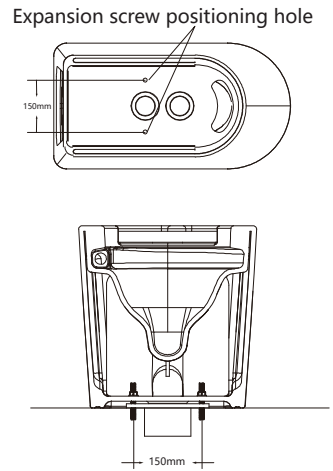

Figure 4
4. Lift the toilet (ceramic) to the floor drain as a reference, align the expansion screw hole at the bottom of the toilet ceramic body with the expansion screw position on the ground, and slowly put the ceramic on it. Press down so that the sludge is in close contact with the toilet drain, and hit the fixing nut at the expansion screw. (Figure 4)
5. It is suggested to clean the filter every 2 months as Figure 4. Close the angle valve before cleaning and rive the filter by coin, then install and tighten the filter back after remove the dirt and impurity.